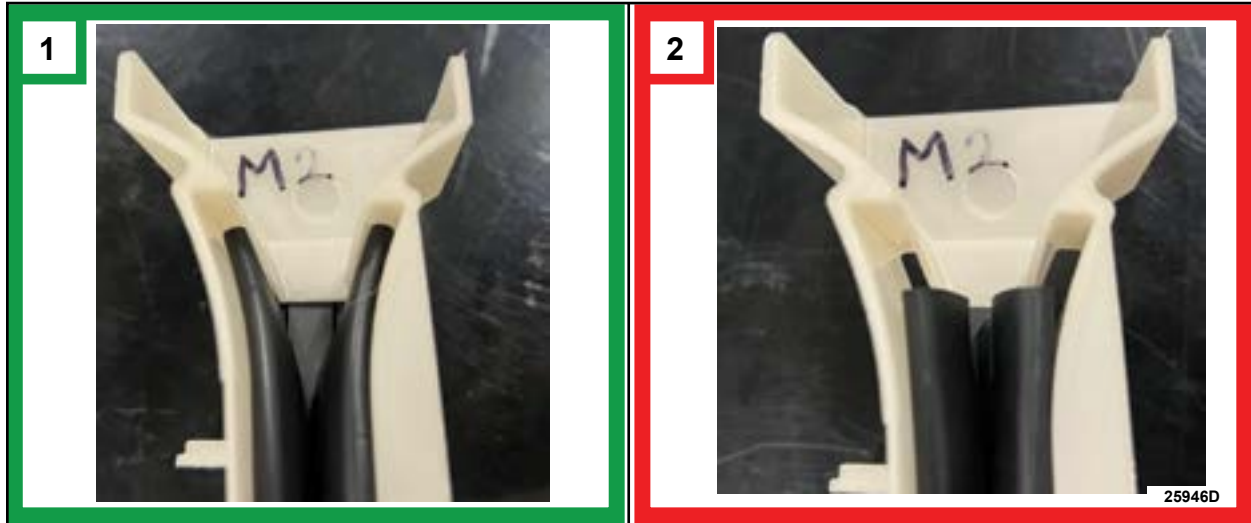
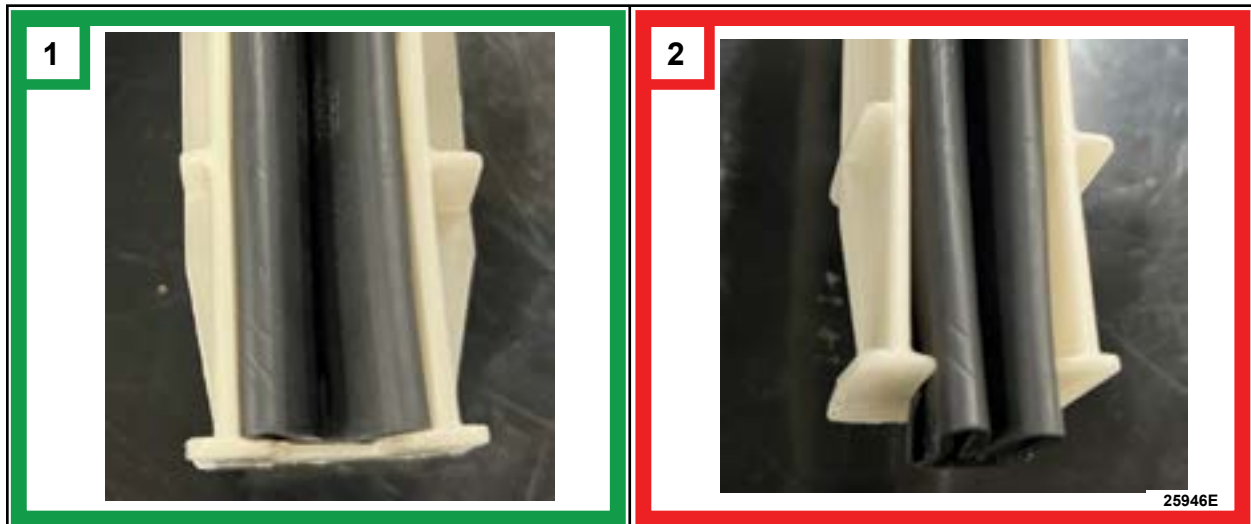

FIGURE 4
FIGURE 5
6. Ensure the run is fully seated in the window run channel by using a trim tool. See Figure 4 for correct (1) and incorrect (2) positioning of the top of the run. See Figure 5 for correct (1) and incorrect (2) positioning of the bottom of the run.